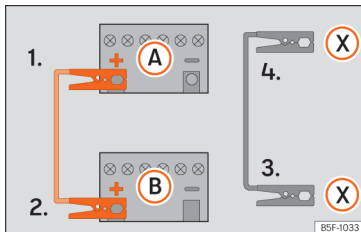

Fig. 61 Diagram of connections for vehicles with Start Stop system
- 4b. *In vehicles with a Start-stop system:* connect one end of the black jump lead (X) to a suitable ground terminal, to a solid piece of metal in the engine block, or to the engine block itself » » Fig. 61.
5. Connect the other end of the black jump lead (X) to a solid metal component bolted to the engine block or to the engine block itself of the vehicle with the flat battery. Do not connect it to a point near the battery (A).